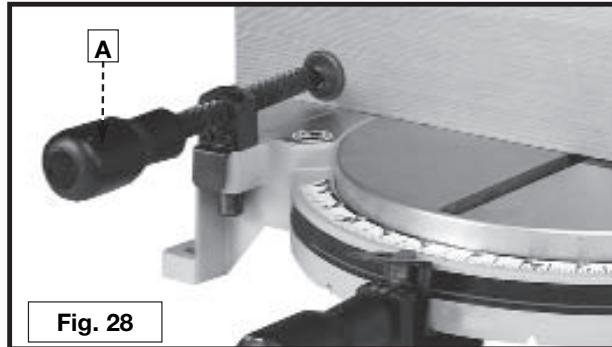

Fig. 28
2. Place the workpiece on the table and hold or clamp it firmly against the fence (Fig. 28).